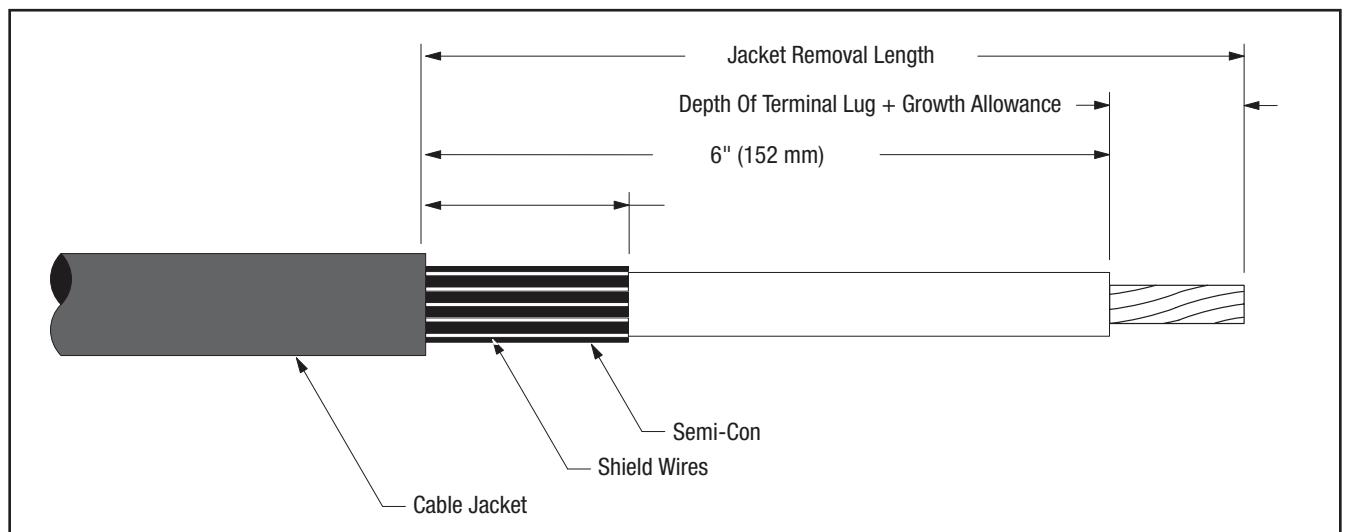
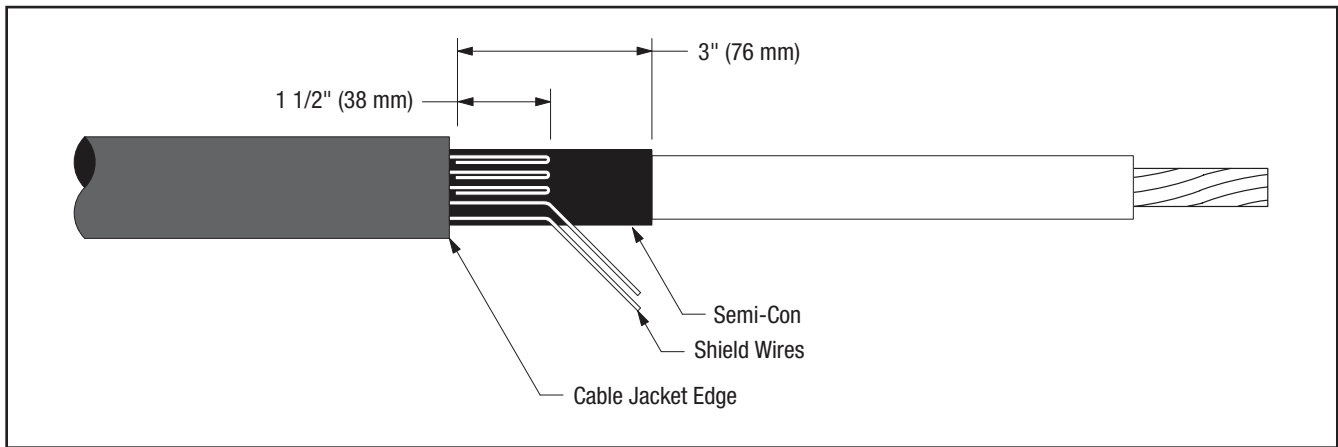

Figure 7
Figure 8
7.2 Prepare cable using dimensions shown in *Figure 7* and *Figure 8*. **BE SURE TO ALLOW FOR DEPTH OF TERMINAL LUG.**
7.3 Bend leading 1 1/2" (38 mm) of exposed shield wires back upon themselves to jacket edge (*Figure 8*).